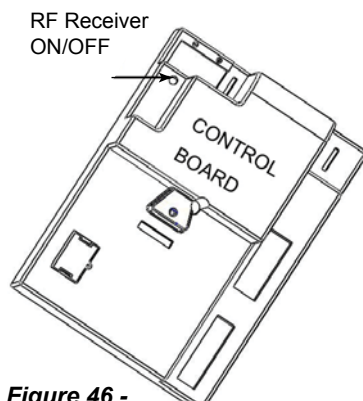

Figure 46 - Control Board
1. The RF receiver button on the control board in the fireplace must be in the on position before the learn function can begin. With the Command Center master switch in the ON position, use paper clip to depress the recessed button on Control Board, one beep for RF receiver ON or two beeps for RF receiver OFF. *Figure 46*